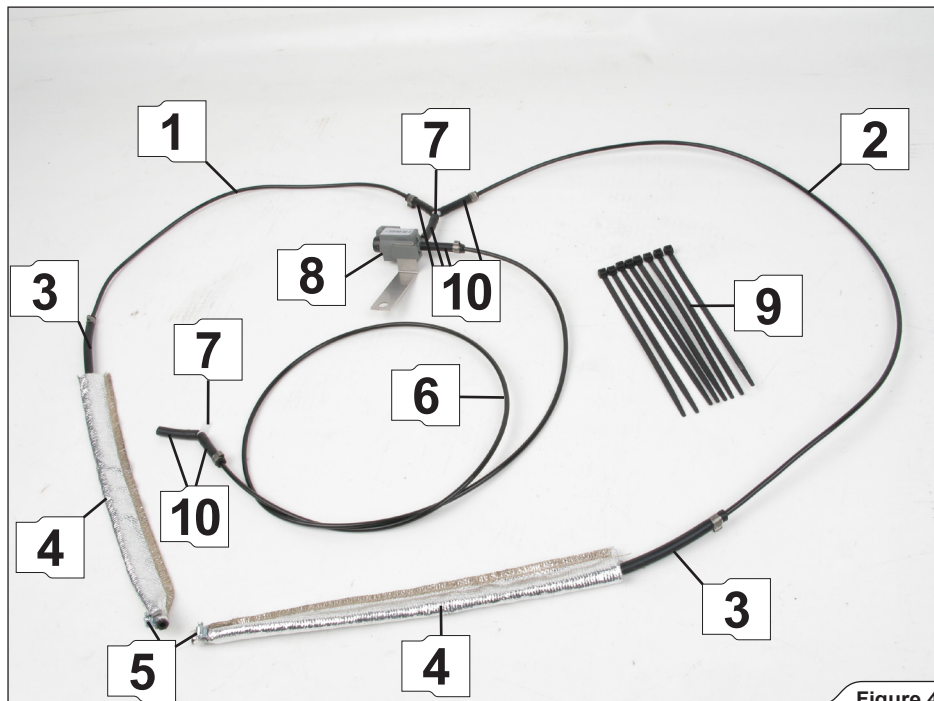

Figure 4
4. **Akrapovič Vacuum system assembly (Figure 4):**